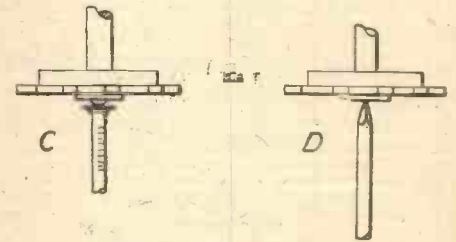

Fig. 3.—Details of foot bearings for vertical axle.
Figure 1 shows the arrow made out of $\frac{1}{4}$ in. brass rod, 28 in. long, annealed in the middle and drilled to allow a hacksaw blade to be inserted to make a sawcut $1\frac{1}{2}$ in. long (Fig. 2). A taper drift is now driven into the sawcut and swelled out as in Fig. 3. This should be opened up and fitted to the bottom end of tube A (Fig. 1), and well soldered. This tube should be plugged at top end with a brass insert, the bottom of which is counter-
To take the weight of the vane, etc., and to keep the vertical axle in position, the block (8) is placed on the main post and into it a 4in. nail is fitted. On this rests and rotates the round head of the screw in the dowel end as C (Fig. 3), or if a metal rod is used, the top of the nail must be made into a point as D (Fig. 3).